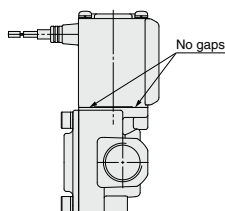

Fig. 1
- 2) Push the coil assembly against the body and tighten the screws two or more rounds diagonally (Fig. 2) in the status that there are no gaps between the coil assembly and body (Fig. 1).
* After tightening the screws, make sure that there are no gaps between the coil and body (Fig. 1).